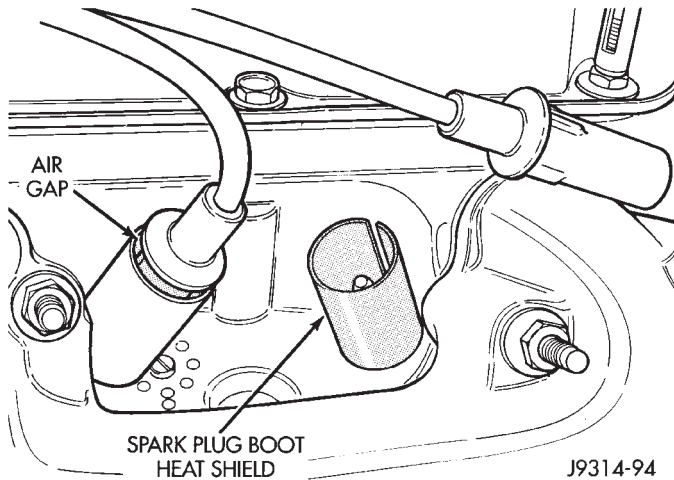

Fig. 28 Heat Shields—5.2L Engine
5.2L Engine: Spark plug heat shields are pressed into the cylinder head to surround each spark plug cable boot and spark plug (Fig. 28). These shields
protect the spark plug boots from damage (due to intense engine heat generated by the exhaust manifolds) and should not be removed. After the spark plug cable has been installed, the lip of the cable boot should have a small air gap to the top of the heat shield (Fig. 28).